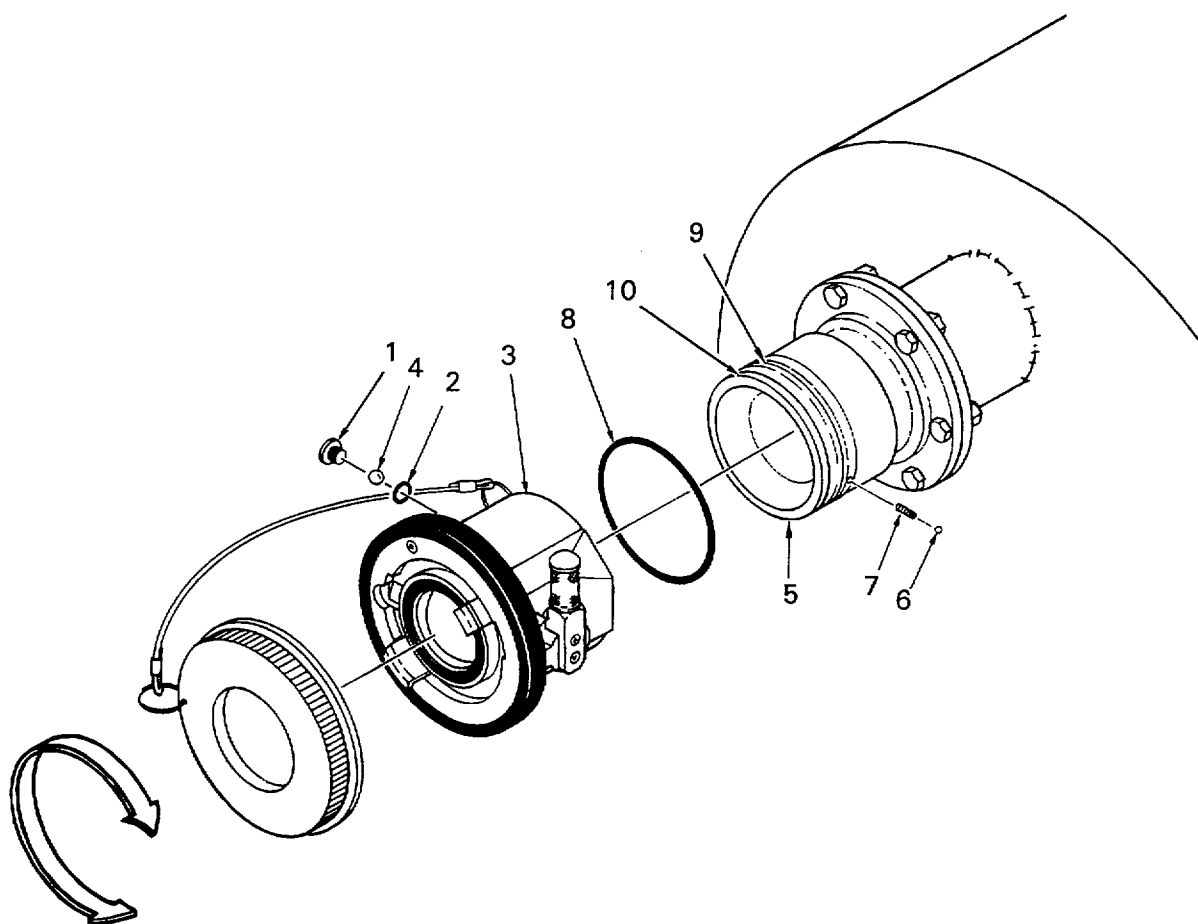

Figure 4-7. Inlet/Outlet Unisex Coupling Removal
a. Removal. (Figure 4-7)
- (1) Remove ball retaining screw (1) and O-ring (2). Discard O-ring (2).
- (2) Place a wiping rag beneath the coupling (3) and, with the screw hole facing toward the wiping rag, rotate the unisex coupling (3) back and forth to allow the 41 balls (4) to fall into the wiping rag.
- (3) Pull the unisex coupling (3) from the inlet (5). Collect the continuity ball (6) and spring (7).
- (4) Remove and discard inlet O-ring (8).
b. Installation. (Figure 4-7)
- (1) Lightly lubricate inlet O-ring (8) with petrolatum and install in second (square) groove (9) on inlet (5).